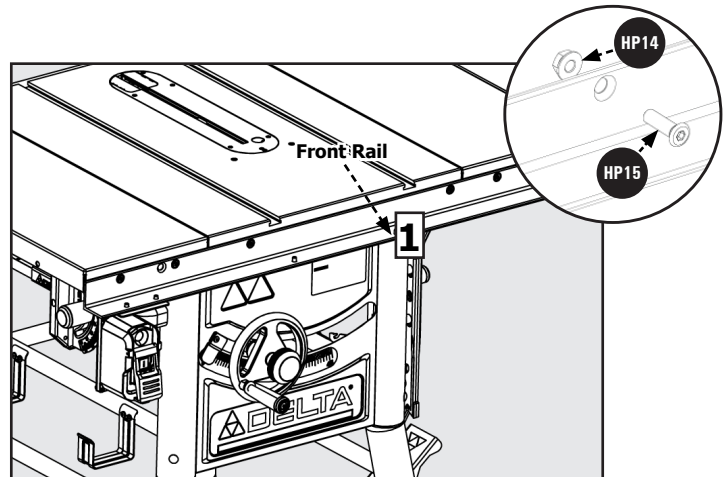

Figure 5
1. Using the supplied 3/16 inch T-Handle Allen Wrench, attach the Front Rail **PC18** [1] to the table front with two 5/16-18 x 1 1/8 inch Flat Countersunk Hex Screw **HP15** and two 5/16-18 Hex Flange Nuts **HP14**. See Figure 5.